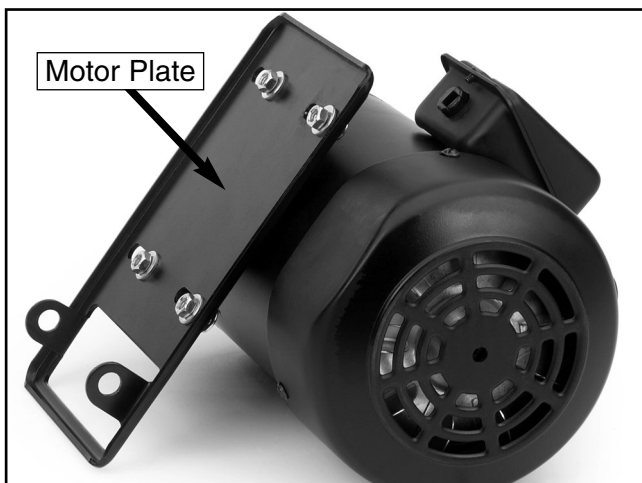

Figure 18. Installed motor plate.
- Using a 12mm wrench, loosely secure the motor to the motor plate with the hex bolts, the lock washers, the flat washers, and the hex nuts (**Figure 18**).